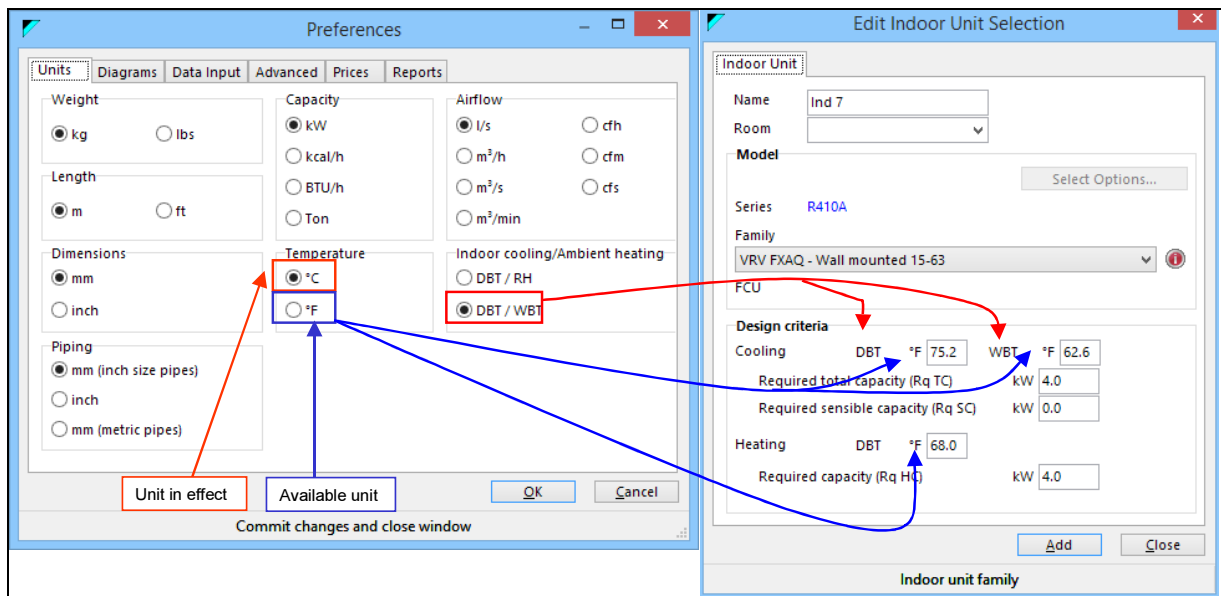

Figure 89: Changing the dimension of a unit
By default, VRV\_Xpress uses the SI units to express temperature values, capacities, etc. However, the “**Units**” tab allows you using other units, as shown in Figure 89.
- The preferences window displays dimensions for several units: weight, dimensions, piping, capacity, temperature, airflow and indoor cooling/ambient heating. The current dimension is the selected one. For example, the selected dimension for temperature in Figure 89 is  $^{\circ}\text{C}$ .
- You can now select another dimension, such as  $^{\circ}\text{F}$  for the temperature and close the window. VRV\_Xpress immediately replaces all occurrences of  $^{\circ}\text{C}$  by  $^{\circ}\text{F}$  and also converts the data to the new dimension, as shown in Figure 89 at the right.